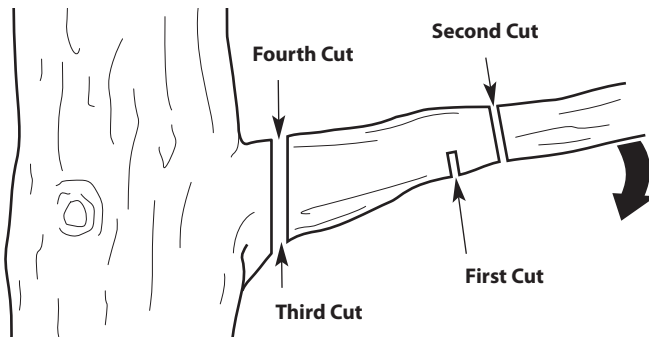

Fig. 13
2. Make the first cut approximately 6 inches (15 cm) from the tree trunk. Cut upward, from the underside of the limb. Use the top of the guide bar to make this cut. Cut a third of the way through the diameter of the limb (Fig. 13).
3. Make the second cut 2 - 4 inches (5 - 10 cm) farther out on the limb. Cut downward, from the top of the limb. Use the bottom of the guide bar to make this cut. Cut completely through the limb (Fig. 13).
4. Make the third cut as close to the tree trunk as possible. Cut upward, from the underside of the limb stub. Use the top of the guide bar to make this cut. Cut a third of the way through the diameter of the limb (Fig. 13).
5. Make the fourth cut directly above the third cut. Cut downward, from the top of the limb stub. Use the bottom of the guide bar to make this cut. Cut completely through the limb stub to meet the third cut (Fig. 13). This will remove the limb stub.